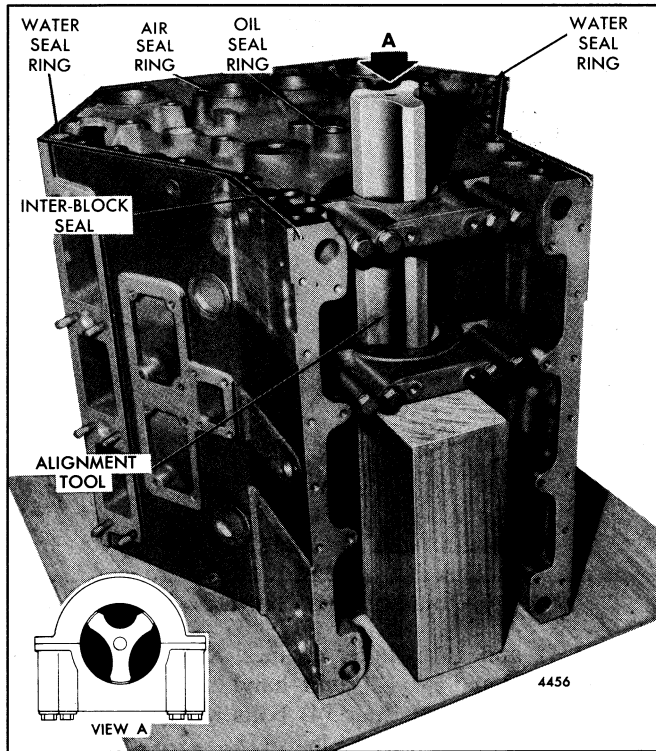

Fig. 12 - Positioning Crankshaft Bore Alignment Tool
3. Support the cylinder block bore aligning tool J 22486 (Fig. 12) and secure it to the block with two main bearing caps. Tighten the main bearing cap bolts to 280-290 lb—ft (379-393 N*m) torque. Place the cylinder block alignment tool in the main bearing bore with the three contact points of the tool located as shown in Fig. 12.
7. Apply a thin coat of spray adhesive around the edge of the blower drive coupling hole (Fig. 12) and place a new air seal ring in position. Engines built prior to 12E-1040 and 16E-057 did not use the air seal ring. On these engines, apply a thin coat of sealant around the blower drive coupling hole.